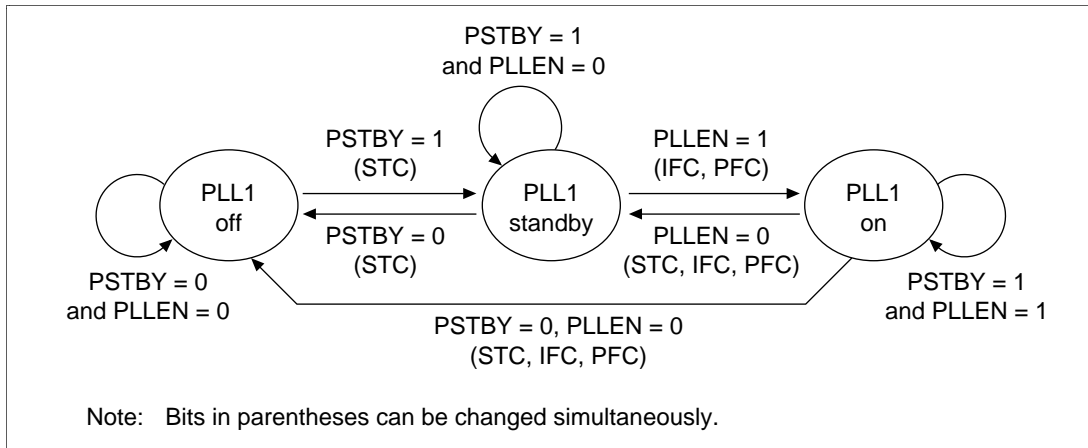

Figure 9.3 State Transitions for the PLL Standby Function
1. There are some restrictions on the PLL standby state (PSTBY = 1, PLEN = 0) as follows: The settings of the frequency control register's CKOEN, STC2–STC0, IFC2–IFC0 and PFC2–PFC0 bits generally cannot be changed. In some cases, however, they can be changed if the PSTBY and PLEN bit settings are also changed simultaneously (figure 9.3). The SLEEP instruction cannot be executed.